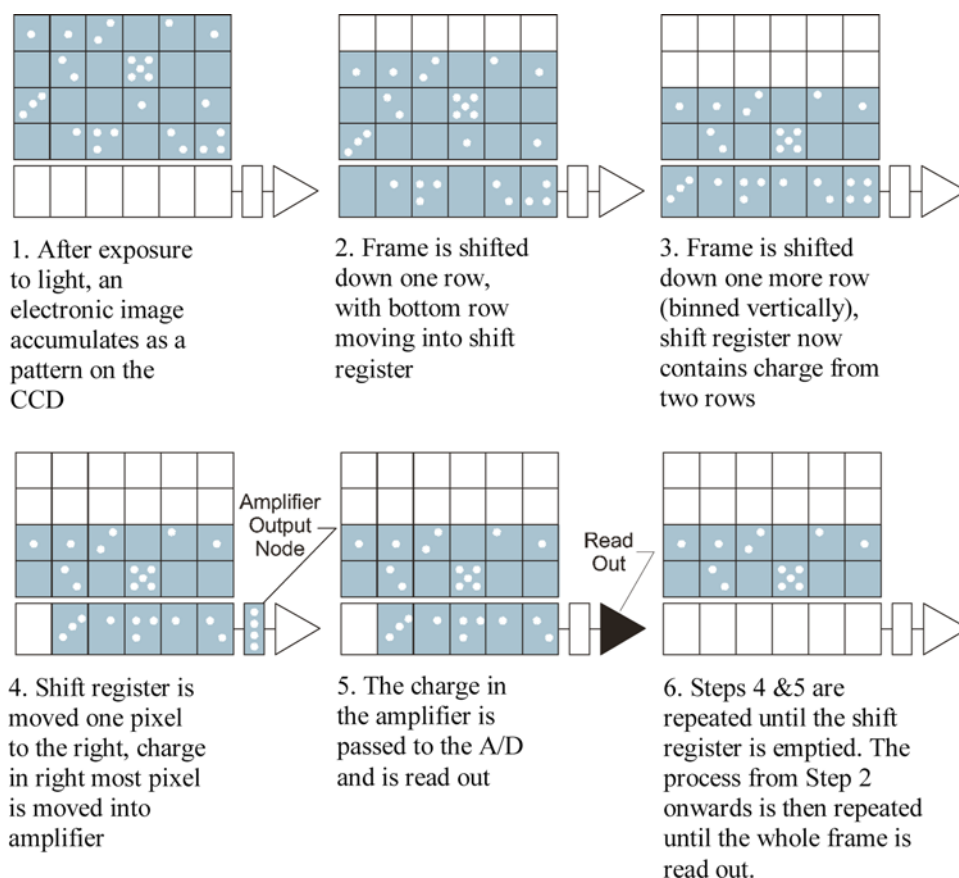

FIG. 12 Steps Depicting Vertical Binning of Two Rows
**vertical binning,  $n$** —a process that allows charge from a column of pixels to be combined on the CCD chip prior to readout (see Fig. 12).